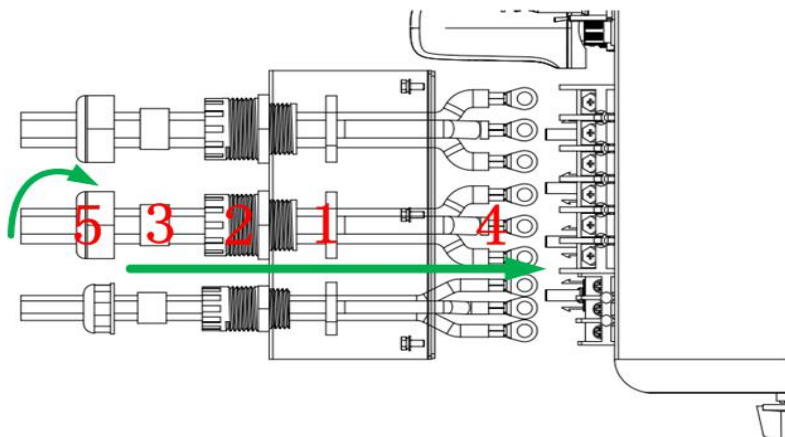

Fig. 6.3.2.1
- ① According to the wire diameter provided in Table 6.2, select appropriate wire diameter, strip 5mm cable sheath of L (red/ brown), N (black/ blue), PE (yellow-green) cables, and pass the exposed cable core through the waterproof cover and the waterproof terminal. As shown in Fig. 6.3.2.1:
- ② Fix the waterproof terminal on the waterproof cover, and as shown in Fig. 6.3.2.1, pass 2 through the waterproof cover and fix it with 1, and then insert the rubber ring 3 into 2.